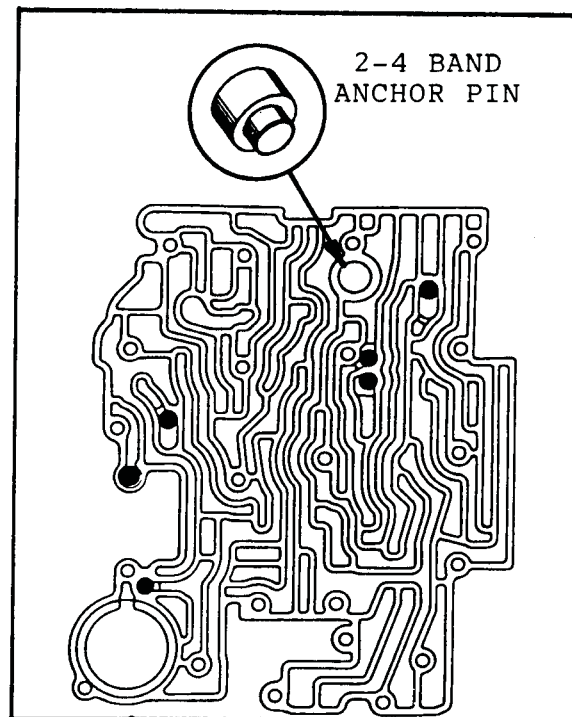

Figure 49
1. Remove band anchor pin (See Figure 49).